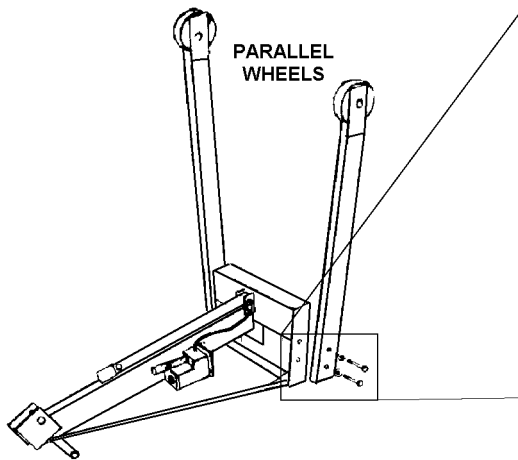

Figure 1
Step #1: Place tower on floor, push-handle down. See figure 1.
Step #2: Attach each leg (item 4) using two 3/8-16x3" grade 5 bolts (item 2), flat washers (item 3), and lock nuts (item 13) as shown. Wheels should be parallel when assembled properly. See figures 1 & 2.